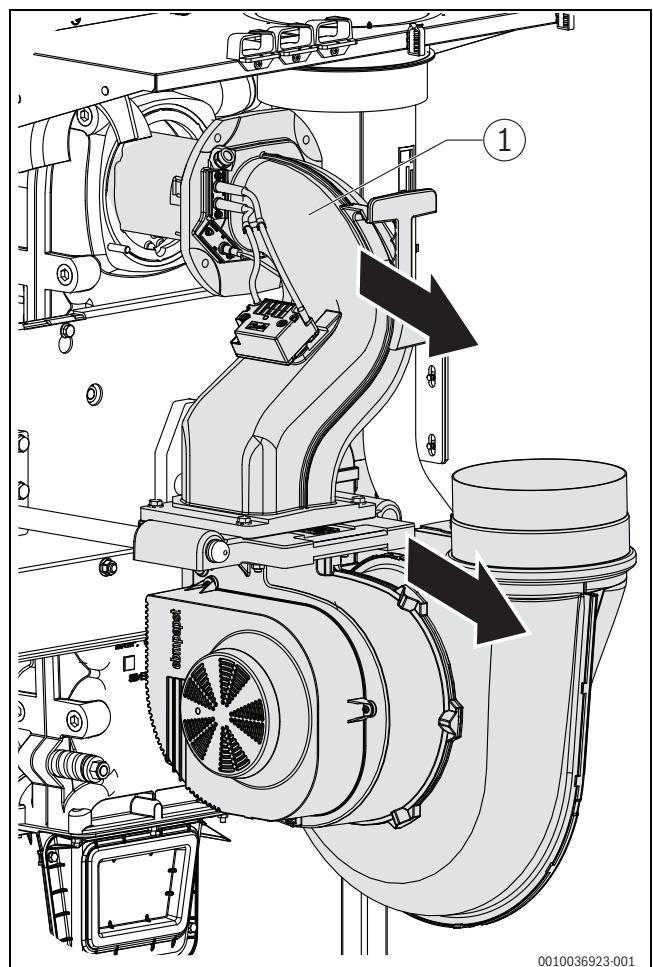

Fig. 50 Pull the burner back
- Pull the mixture manifold with burner rod and fan back to the end position (O-ring on the guide pin) (→Fig. 50).
- ▶ Remove the 4 Screws on the mixture manifold / slide (→Fig. 50).